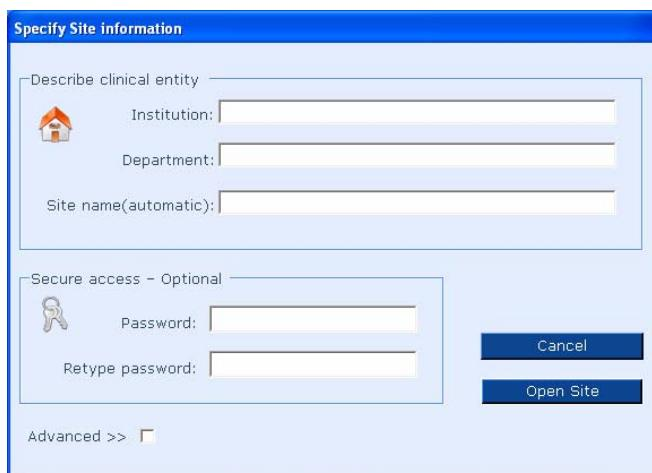

Figure 10 Specify Site Information dialog
1. Click **Edit** in the Site Awareness dialog. The Edit Site Information dialog appears, which is visually and functionally the same as the Specify Site Information dialog (see Figure 10 on page 28).